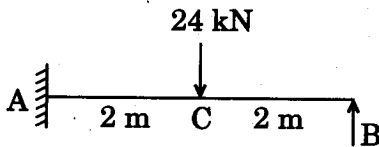

Figure 5
- (b) Using slope deflection method, draw BMD and SFD for the beam shown in Figure 5. 8